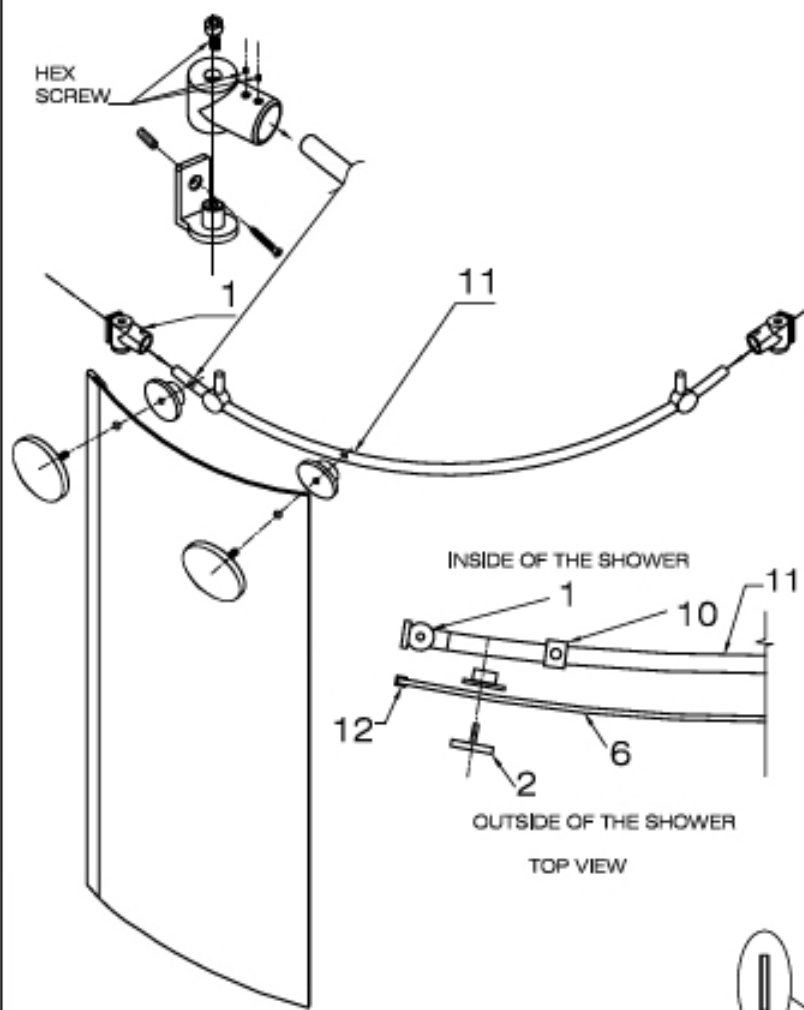

FIG. 4
4. Place structural rail (11) inside the wall mount bracket (1). Tighten two hex screws on the bracket. See FIG. 4, page 5. Repeat this step for another bracket.
5. Screw fixed panel (4) to the structural rail (11) with fixed panel holders (2), (FIG. 4, page 5).
10. Mark location of the fixed panel bottom clip (7) and bottom door guide (8) on the floor.
11. Remove front fixed panel (4) from the position in the opening.
14. Place wall mount bracket plate (1) to the wall and screw plate with 2" screw (16).
15. Mark holes on the floor for fixed panel bottom clip (7) and bottom door guide (8).
16. Remove fixed panel bottom clip (7) and bottom door guide (8) from the position on the floor, drill holes, place anchors inside.
17. Screw fixed panel bottom clip (7) and bottom door guide (8) to the floor with 1 1/8" screw (15).
19. Screw wall mount bracket body (1) to the wall mount bracket plate with the hex screw from the top of the bracket.
20. Tighten two hex screw of the wall mount bracket body (1) to the structural rail, see FIG. 4.